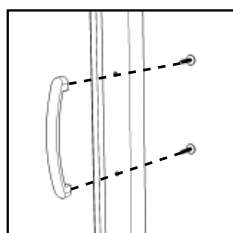

Figure 6
Attach Pull Handles to Doors (H), (I), (P) and (Q) with Machine Screws. (See Figure 6)